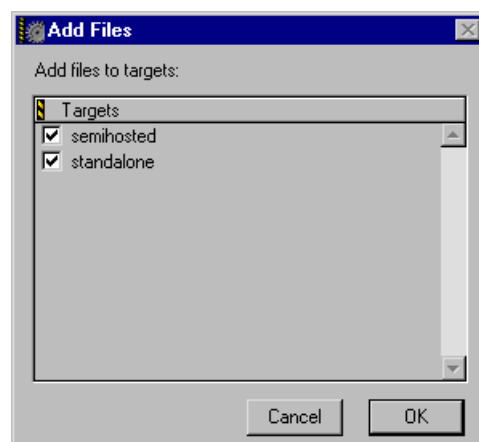

Figure 5-4 Targets for source files
- f. Add your source files to both the semihosted and standalone builds (see Figure 5-4).